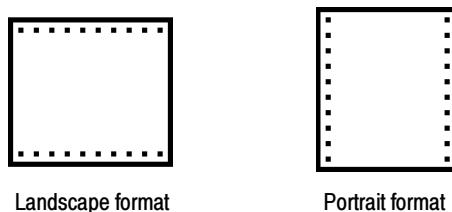

Figure 3-61: Hardcopy formats
- **Orientation:** select either Portrait or Landscape (see Figure 3-61).